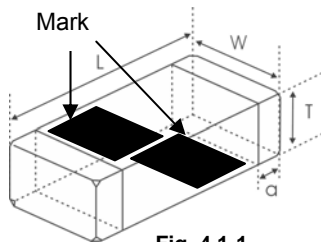
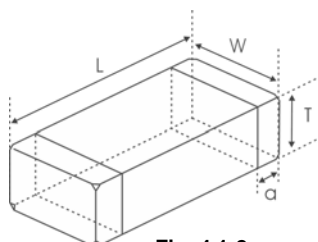
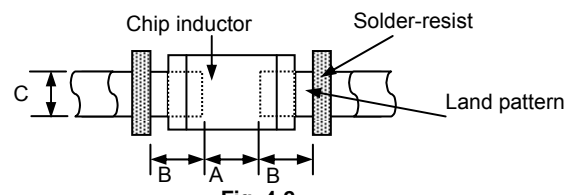

Fig. 4.1-1
Fig. 4.1-2
Fig. 4-2
- 1) Dimensions and recommended PCB pattern for reflow soldering: See **Fig.4.1-1**(10nH and below with mark),**Fig.4.1-2**(12nH and above without mark),**Fig.4-2** and **Table 4-1**.